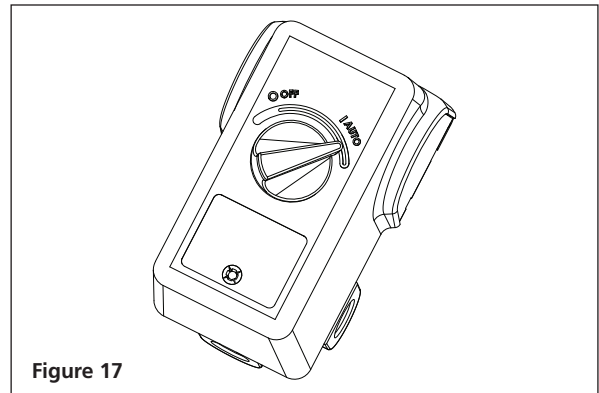

Figure 17
4. Move pressure switch to the **AUTO** position to run the unit (see Figure 17).
5. Run the unit for thirty (30) minutes at zero (0) PSI (under no load) to break in pump parts.
7. Change oil after first fifty (50) hours of operation. Perform oil changes every three (3) months or two hundred (200) hours of run time, whichever comes first.